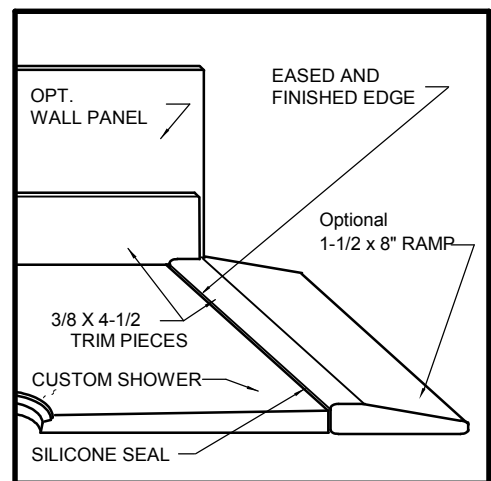

Fig. 2
- Step 7. Install the Optional Entrance Ramp across the open side and check the height against the shower floor (See Fig. 2). It should be no more than 1/4" above or below the shower floor surface for ease of entry and exit. Shim or trim as may be required. Wipe down the floor and back side of the ramp with isopropyl alcohol and bond the ramp to the floor with the RTV Silicone Adhesive supplied.